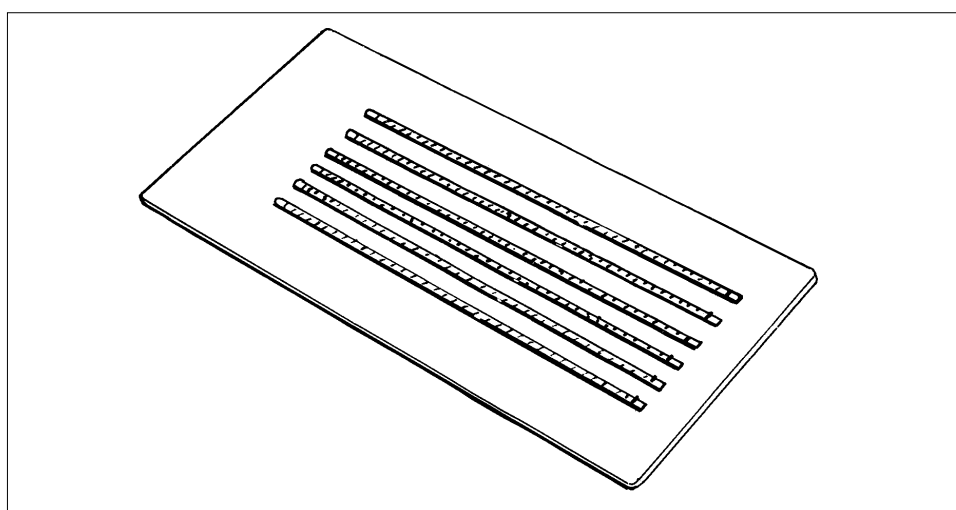

Fig. 3.
- Place the dry strips on the wetted surface of the plain glass plate gel side UP (Fig. 3).